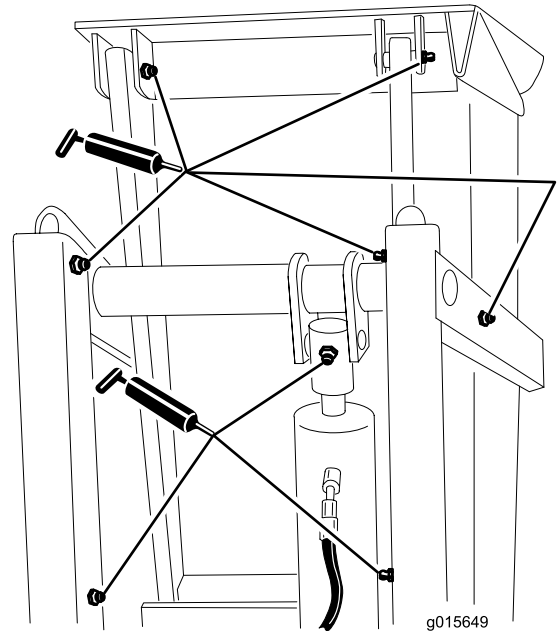

Figure 26
After every 25 hours of operation, grease the cylinder and all pivot points with No. 2 multi purpose lithium base grease. There are (8) grease fittings at various pivot points and (1) fitting on each end of cylinder (Figure 26).